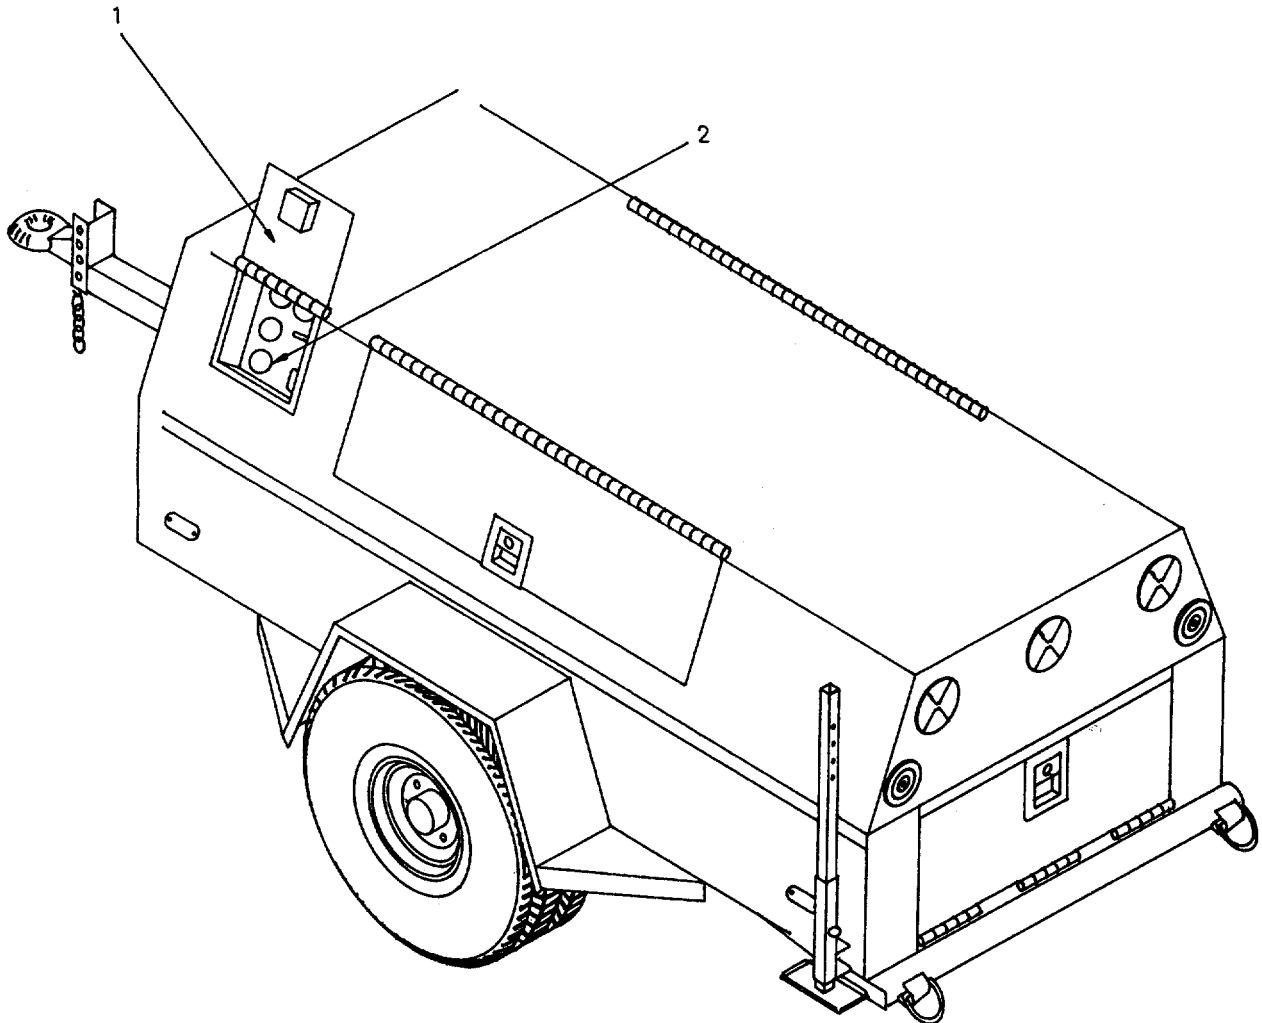

Figure 2-7. Frame Control Panel Location.
2-6.1 Preparation for Starting. Open frame control panel access door (1, Figure 2-7) and observe pressure gage (2).